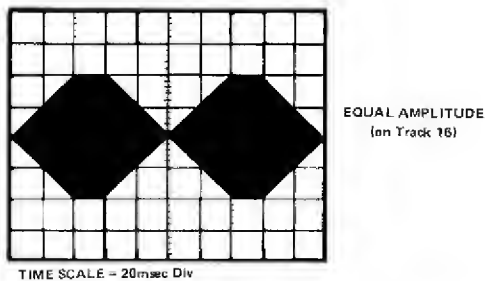

FIGURE 11. "CAT EYES" PATTERN
3. Read track 16 and verify the "cat eyes" pattern as shown in Figure 11. The smaller of the two "eyes" should not be less than 75% amplitude of the other.  $\% = (\text{small lobe}/\text{larger lobe}) \times 100$ .